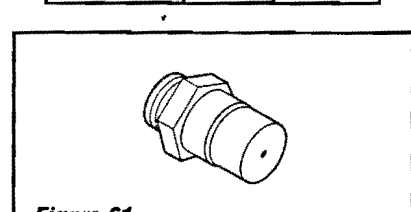

Figure 61
**A.** Remove the orifice from the manifold and replace it with the one provided in the kit. See the following table for orifice sizes for natural and propane models. **Figure 61** illustrates the orifice.